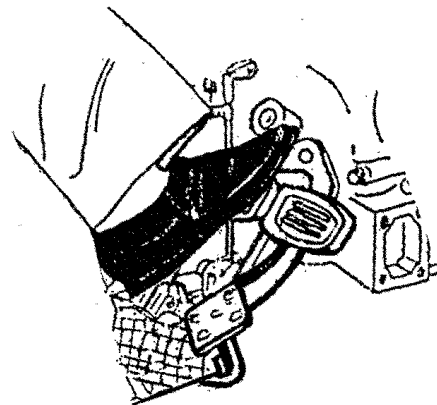

Fig.4-12 Braking Control
- a. Generally, firstly reduce the foot throttle, step down the clutch pedal, and then gradually step down the brake pedal according to necessity (see Fig.4-12) to stop the tractor smoothly.